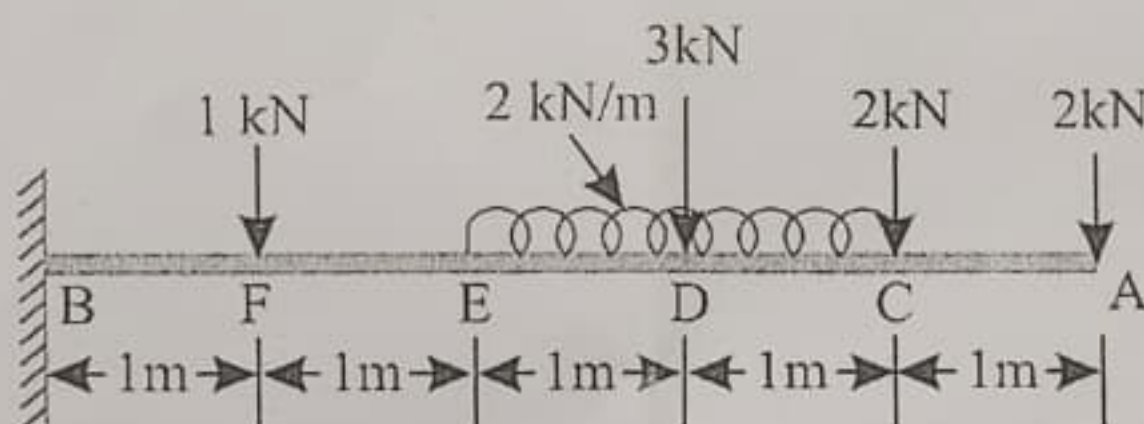

Figure 3
3. Draw the shear force and bending moment diagrams for a cantilever loaded as shown in Figure 3.